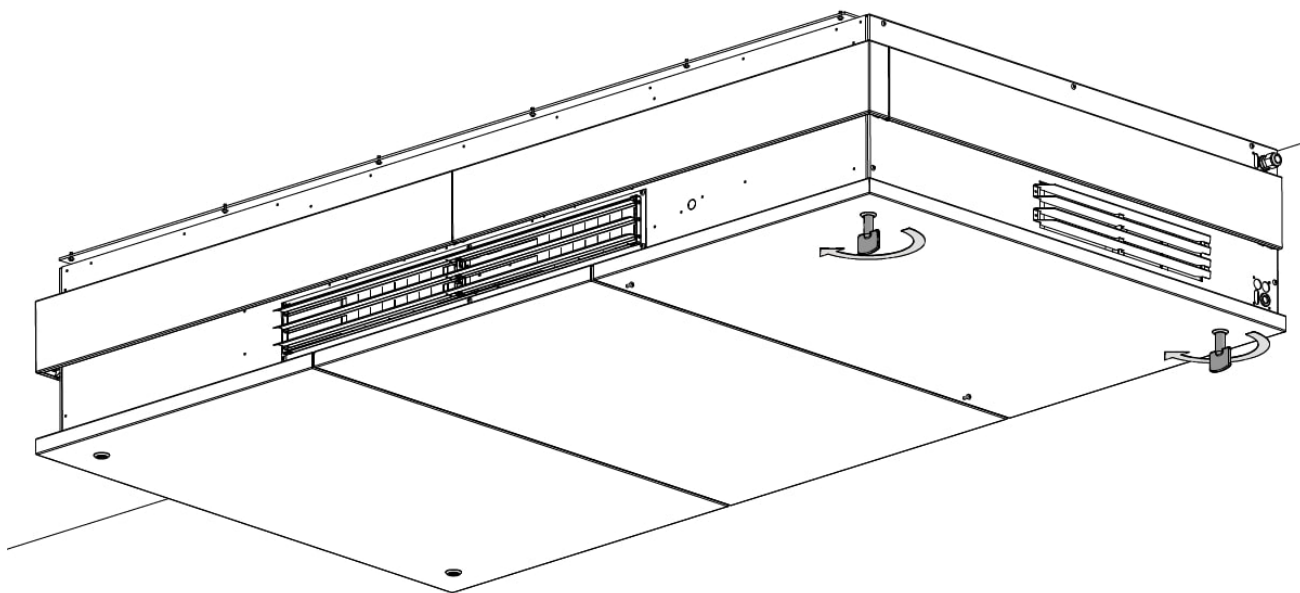

Figure 8: Open the service cover
1. Open the service cover on the right-hand side of the unit. Use the service cover key included in the delivery. See Figure 8 below.